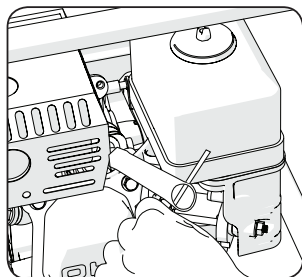

Fig 20
- Using the spark plug socket and 'T'-bar (supplied) remove the spark plug. **(Fig. 20)**